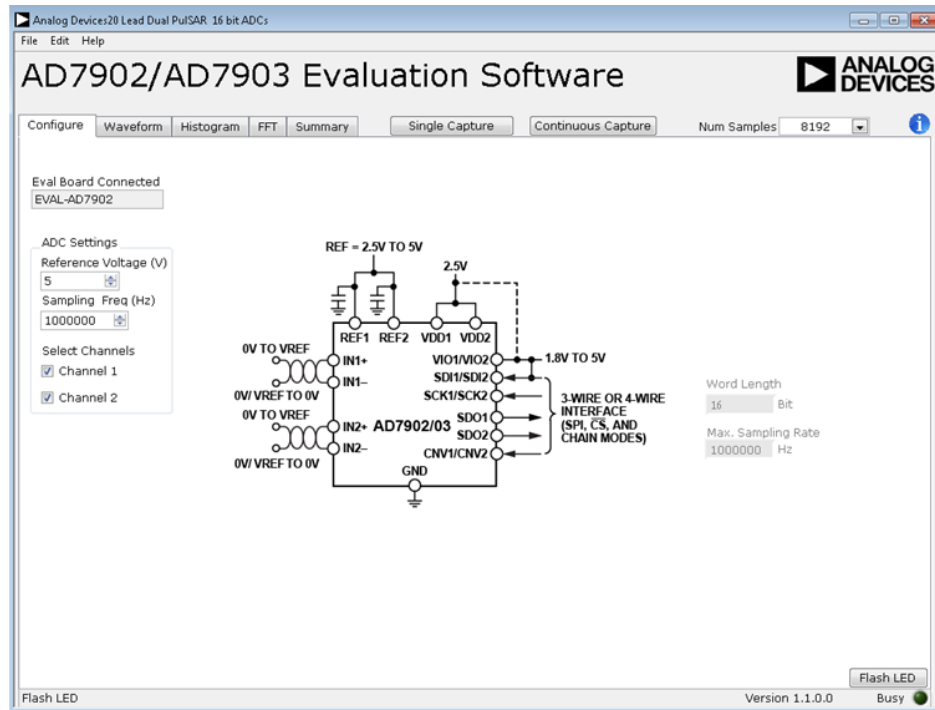

Figure 21. Main Window
4. After the board is correctly detected, the main window of the software appears (see Figure 21), showing that the EVAL-AD7902SDZ board is connected.
4. You can then load example files or previously saved files and analyze data. The main window of the software appears (see Figure 21), showing the evaluation board connected as the part number from the saved data file.
The main window of the software is shown in Figure 21 and has the features described in this section.